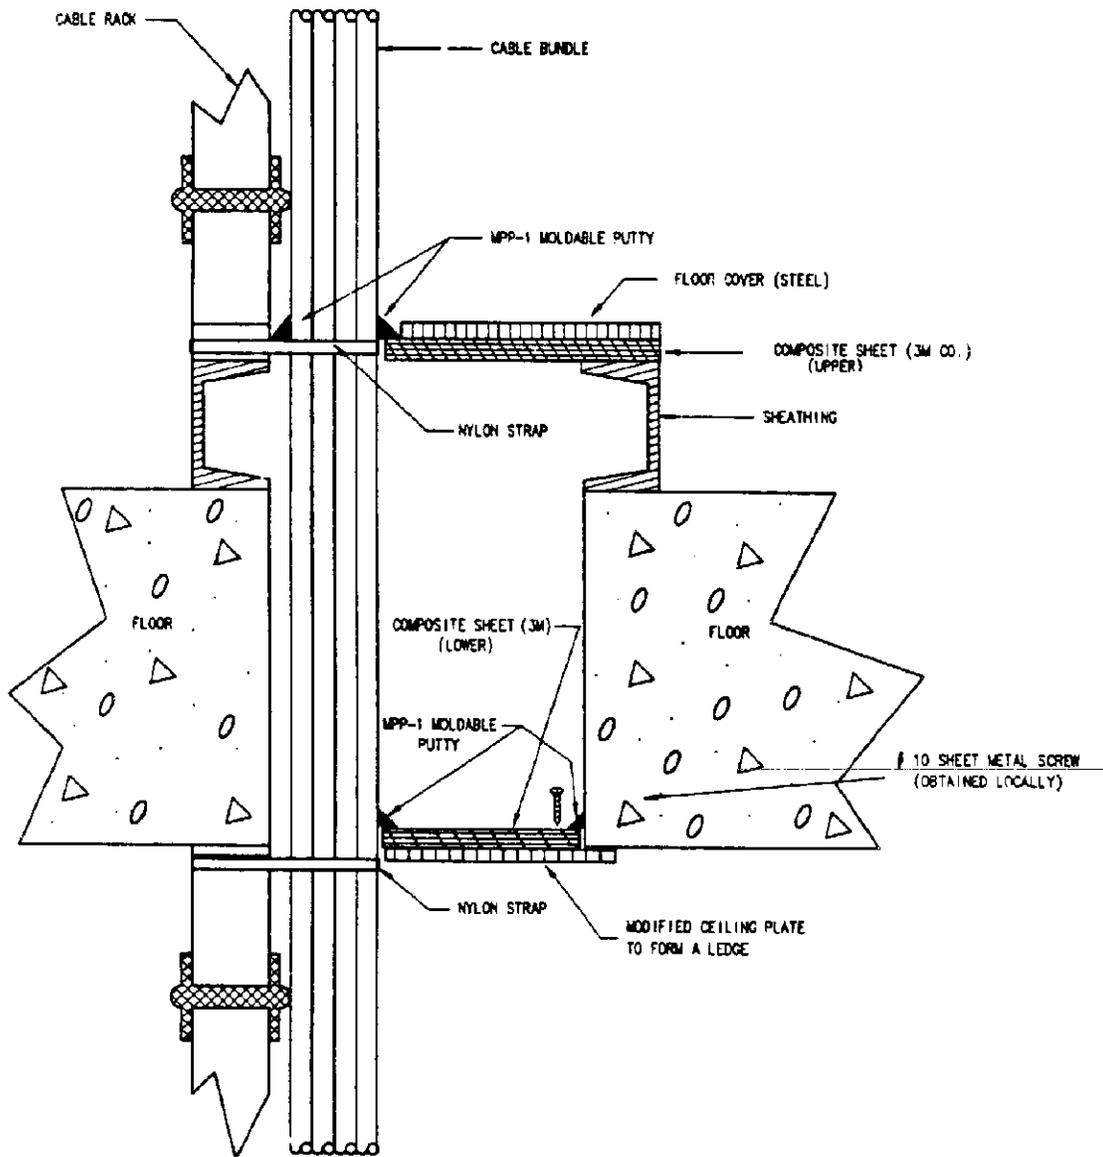

Figure 1. Cable Opening - Floor/Ceiling
4.06 When existing floor, wall, and partition cable holes are opened and the present covers are of an asbestos material, the installer shall replace them with 3M fire barrier composite sheet. A steel plate should then be placed over the composite sheet on all affected floor and ceiling cable holes. (See Figures 1 and 2.)
5.01 The following procedure outlines the basic method of fire stopping floor/ceiling cable holes. (See Figures 1 and 2.)
- (e) The cable bundle is compressed with nylon ties above and below the cable hole as shown in Figures 1 and 2.